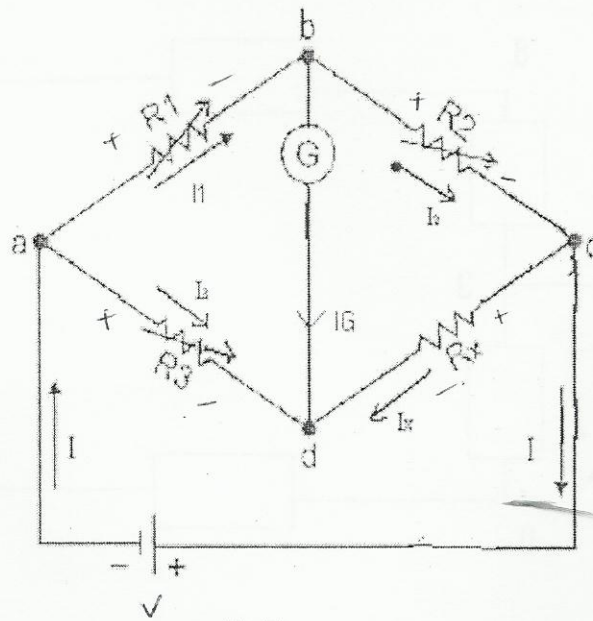

FIG Q6
- Given the bridge in fig Q6, derive an expression to find the value of R_x and explain what should happen to the galvanometer, G , for Nanyondo to conclude that the bridge has been balanced